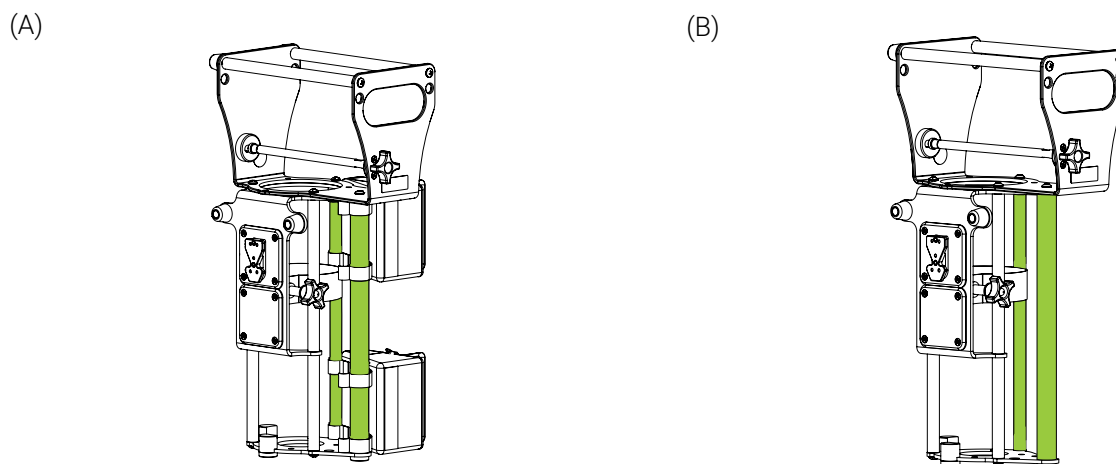

Figure 17: Removing the PAX oxygen bags
2. Detach the bag's linear fabric strips (2X) from the transport handle and the rod of the protective cage (Figure 17).